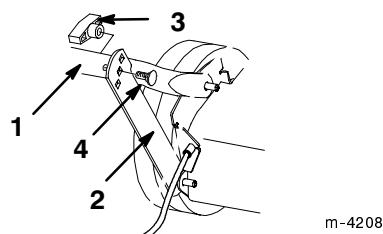

Figure 3
3. Swing the lower handle section back and the support brackets up, aligning the brackets with the holes in the handle (Fig. 3).
4. Secure the handle to the support brackets with the two flat handle bolts and two knobs, using the height adjustment holes on the brackets that best fit your height (Fig. 3).